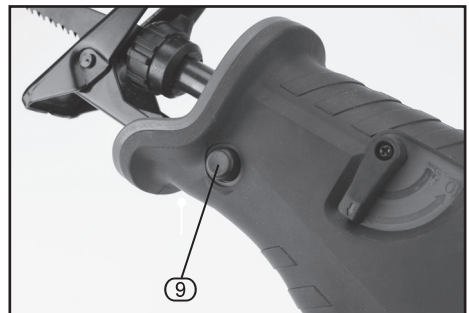

FIG.7
9.4 ADJUSTABLE SOLE PLATE LOCKING SWITCH – FIG. 7